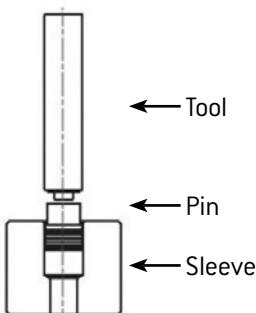

Fig. 2
- With the pin facing out, the KOENIG CHECK VALVE® is inserted in the counter-bored hole (Fig. 2).